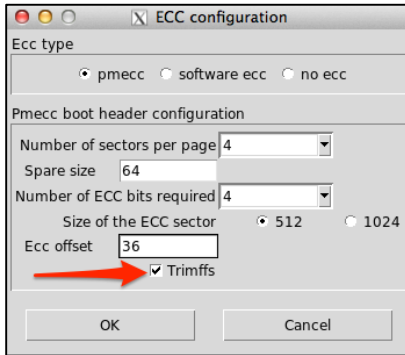

Figure 7: Enabling Trimffs
15. Change PMECC to enable Trimffs by doing the following (Figure 7):